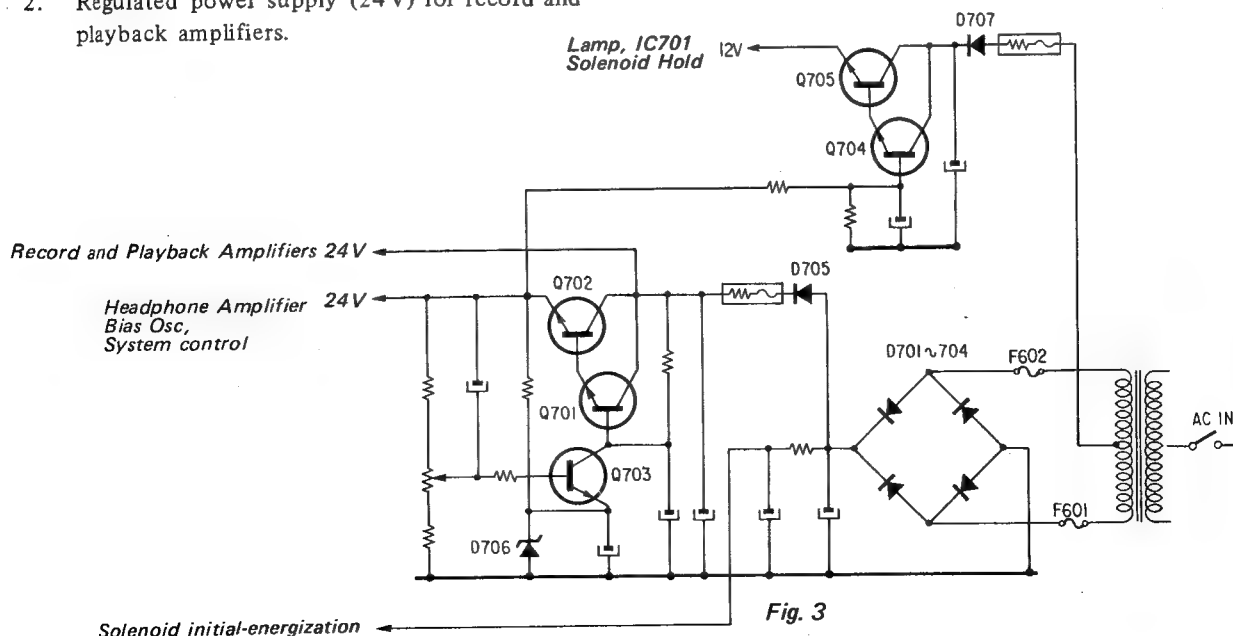

Fig. 3
3. Power Supply Section (Refer to Fig. 3)